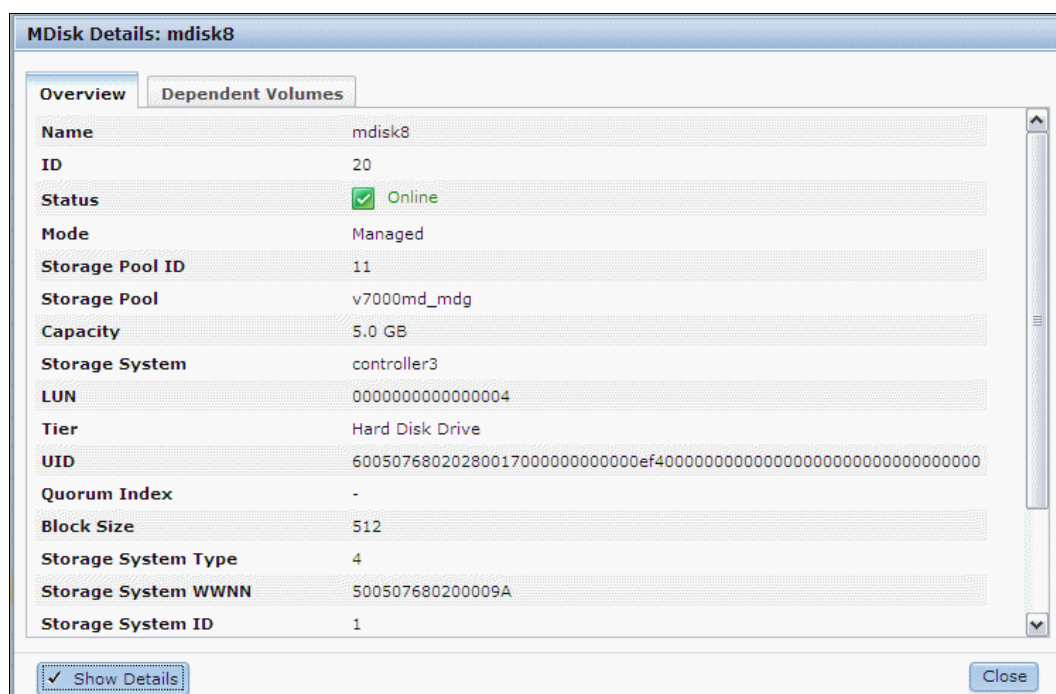

Figure 5-11 SAN Volume Controller MDisk Details for Storwize volumes
3. On the SAN Volume Controller side, review the MDisk details (see Figure 5-11) and compare the MDisk UID field with the Storwize Volume UID. The first 32 bits should be the same.